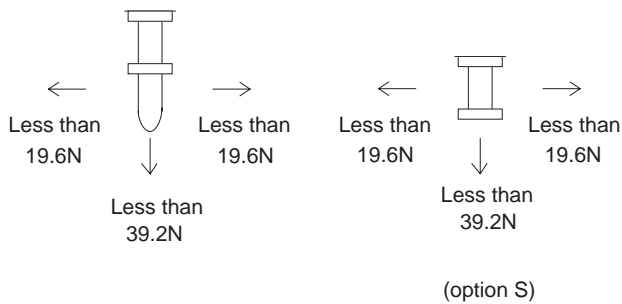

Fig.6.4 Stress onto the pins
- When too much stress is applied to the pins of the power supply, the internal connection may be weakened. As shown in Fig.6.4, avoid applying stress of more than 19.6N (2kgf) on the pins horizontally and more than 39.2N (4kgf) vertically.